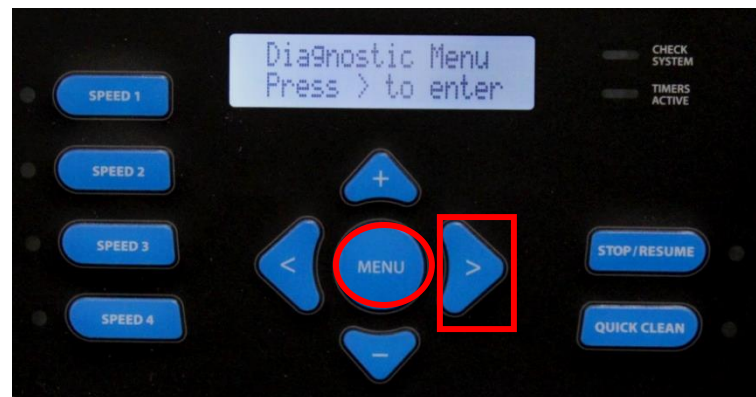

Figure 54
1. Press the Menu button until the Diagnostic screen appears (fig 54). This menu provides important information about the performance of the pump that can be used during troubleshooting. Below are the different screens and their meaning. These are all real-time displays. Press the  button to view information.